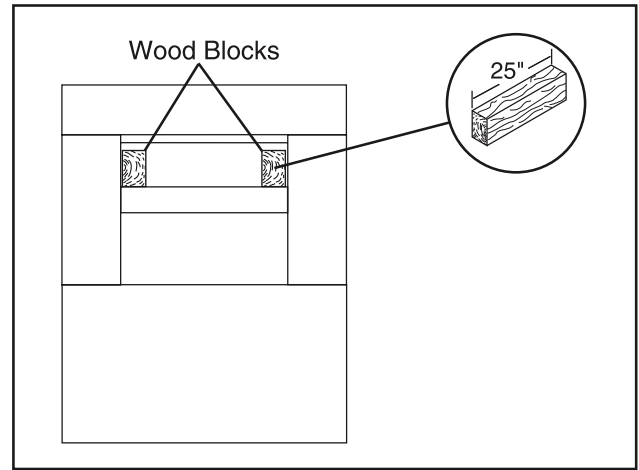

Figure 58. Wood blocks on planer table.
5. Place one wood block along the left side of the table, and place the other wood block along the right side of the table, as illustrated in **Figure 58**.